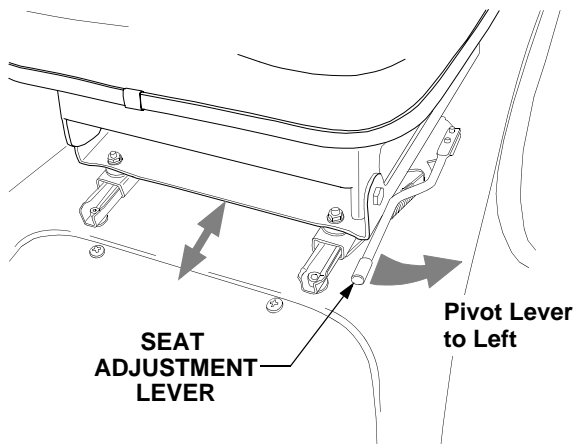

Figure 25
- After repositioning the seat, release the lever to lock the seat in position. Slide the seat either slightly forward or rearward to assure it is locked or until engagement of the lock is felt. See Figure 25.